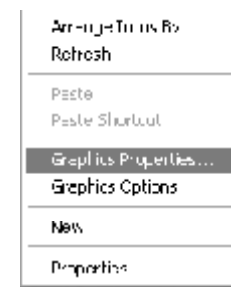
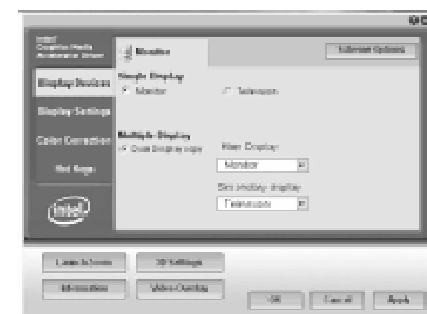

Figure1
Figure2
Step 3 In a number of display devices under Windows settings:Enter the operating system,click the right mouse button in the blank space on the desktop ,choose the “Graphics Properties”(Figure1),In the pop-up window, select "Display Devices" column(Figure2)